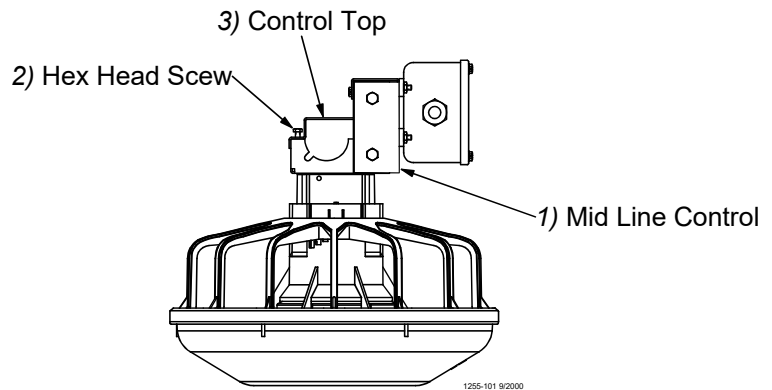

Figure 47. Mid-Line Control Installation
- a. Assemble the Mid-Line Control to the Feeder Tube as shown in **Figure 47**.
- b. Attach the Switch Box Assembly to the Feeder Tube with Hose Clamps as shown in **Figure 47**.